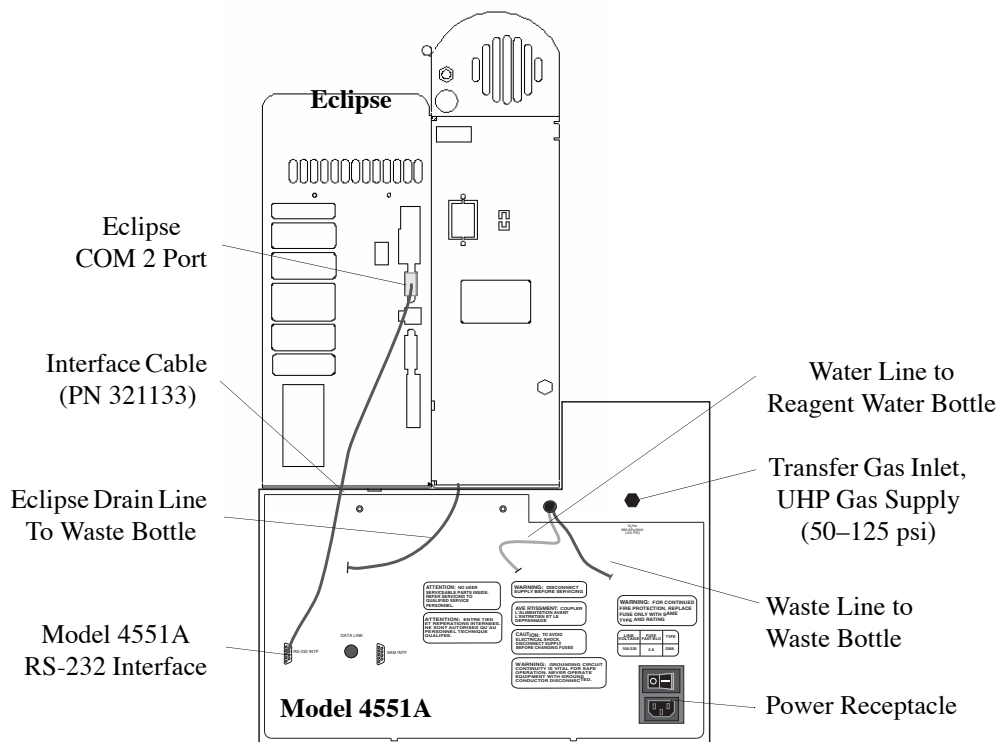
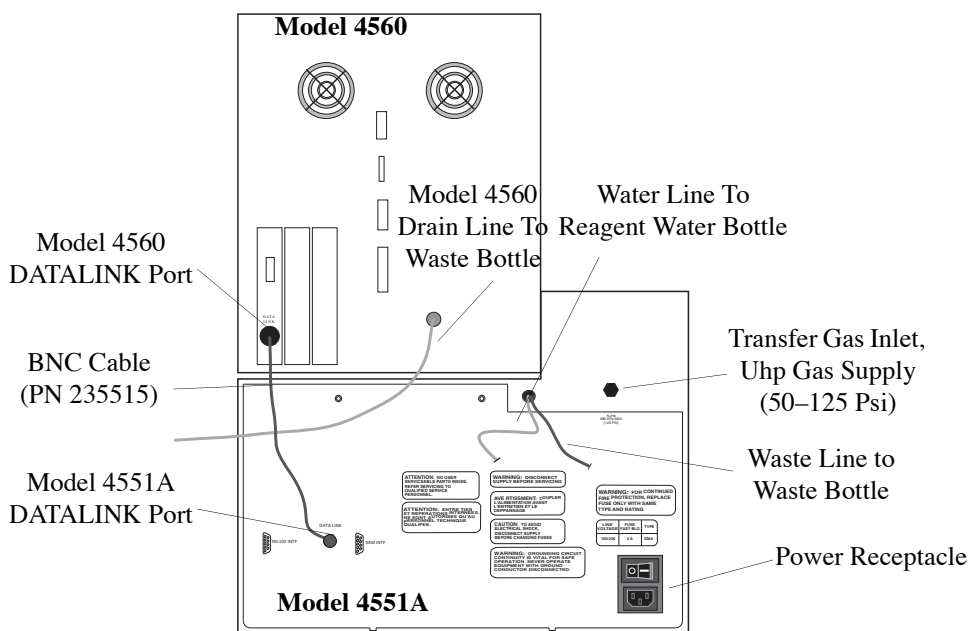

Figure 3.1. Model 4551A Electrical and Plumbing Connections to the Eclipse
Figure 3.2. Model 4551A Electrical and Plumbing Connections to the Model 4560
2. Connect the other end of the cable to the port labeled "COM 2". as depicted in Figure 3.1.
1. Connect one end of the three-foot BNC cable (PN 235515) to the DATALINK port on the back of the autosampler, as depicted in Figure 3.2.
2. Route the 1/8" copper tubing from the UHP He or N2 tank to the transfer gas inlet port on the autosampler back panel and connect using a 7/16" open-ended wrench, as depicted in Figure 3.1 and Figure 3.2.